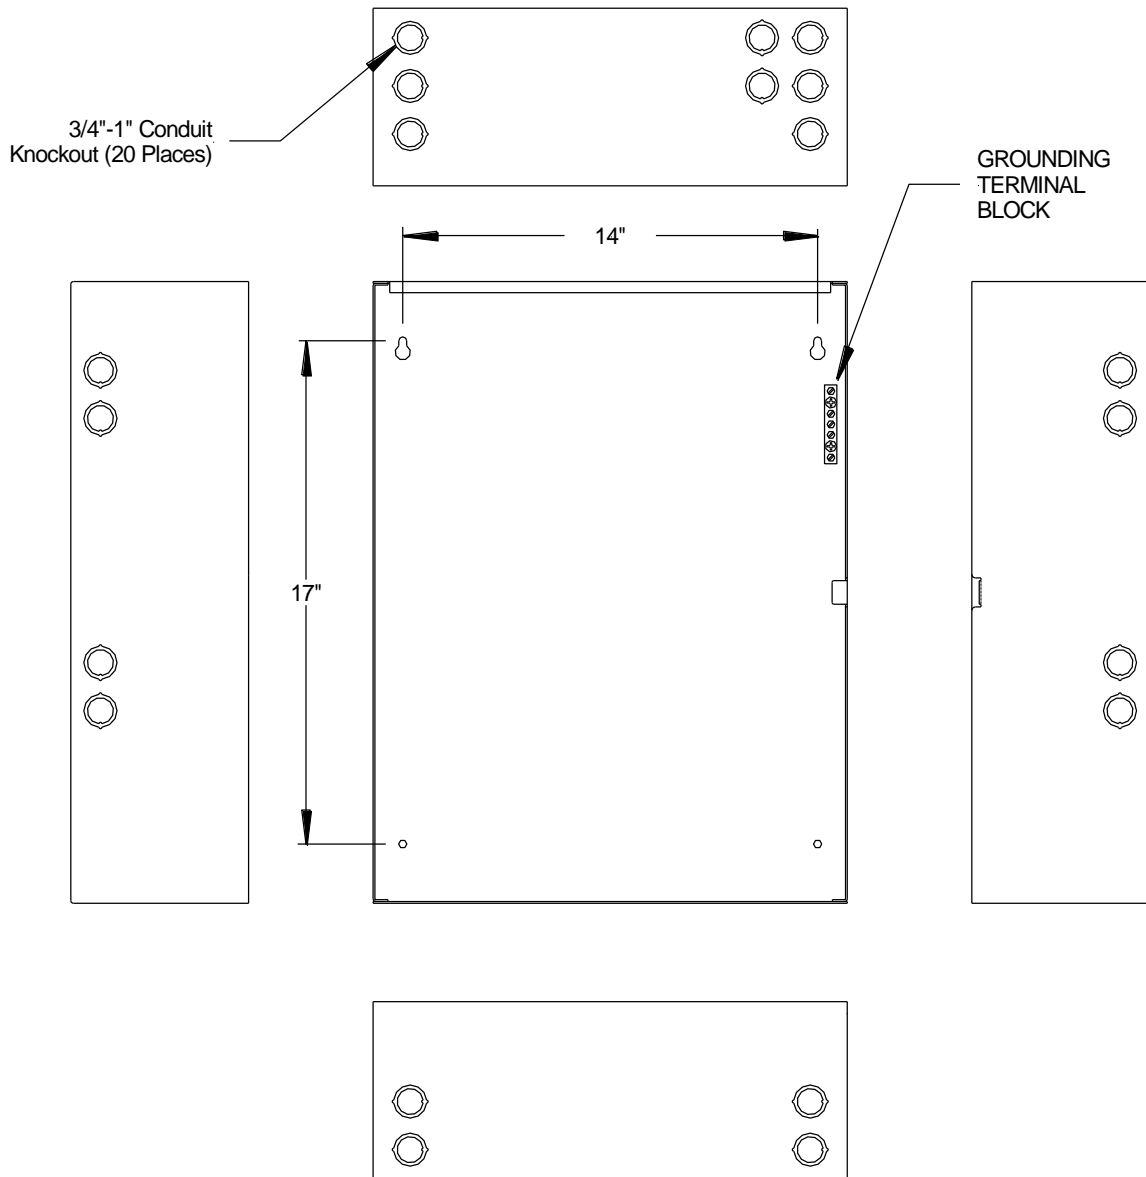
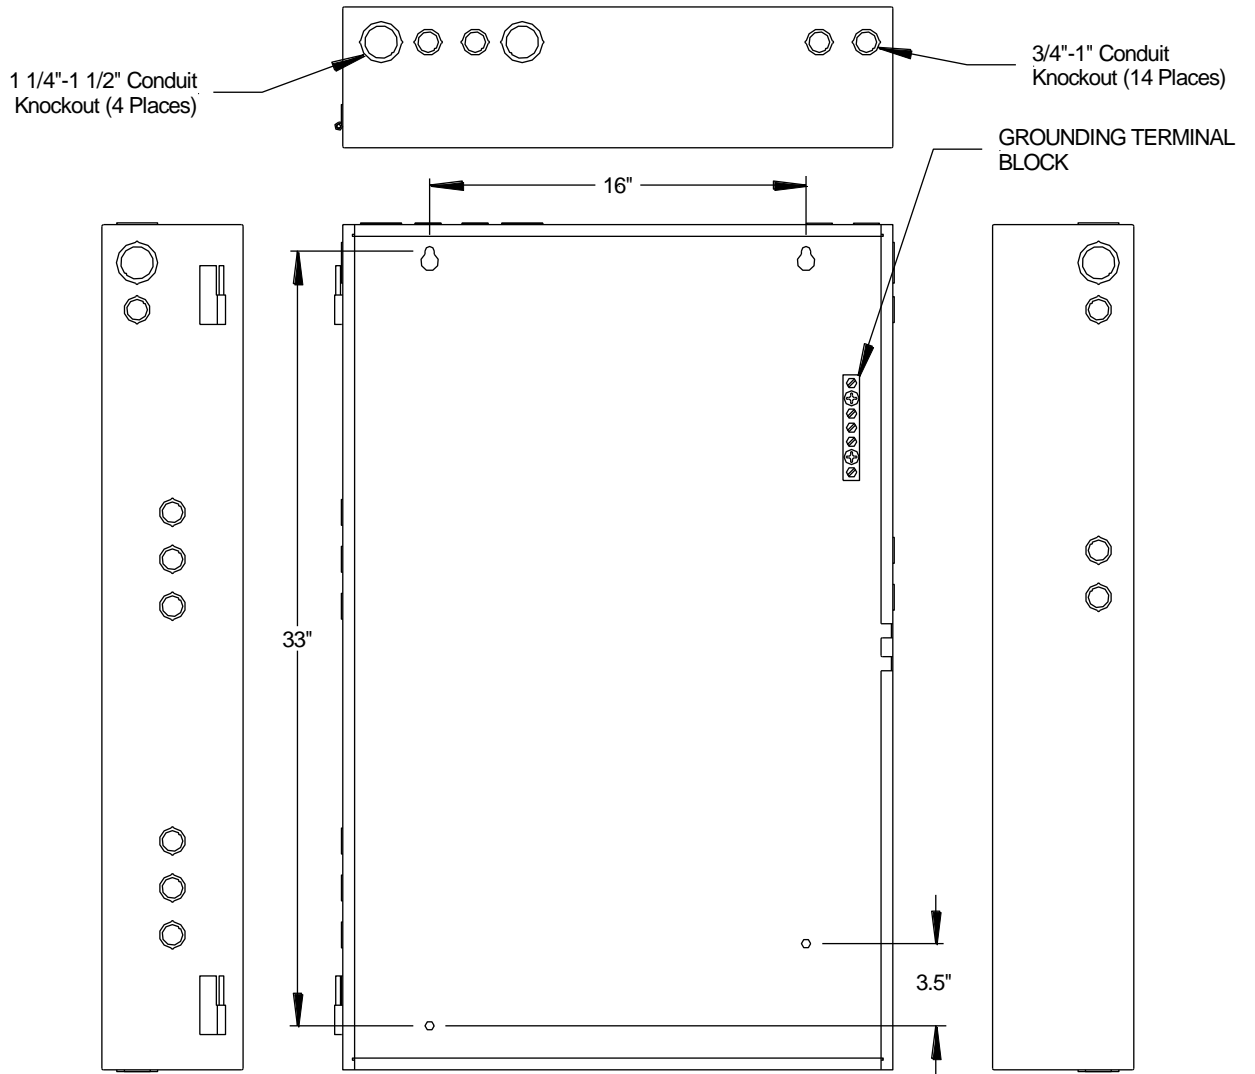

Figure 28 SPB-80/4 and SPB-160 Audio Booster Panel Mounting and Grounding Location
Figure 29 SPB-320 Audio Booster Panel
1. For the SPB-80/4 and SPB-160, see Figure 28 for panel mounting hole layout; for the SPB-320, see Figure 29.